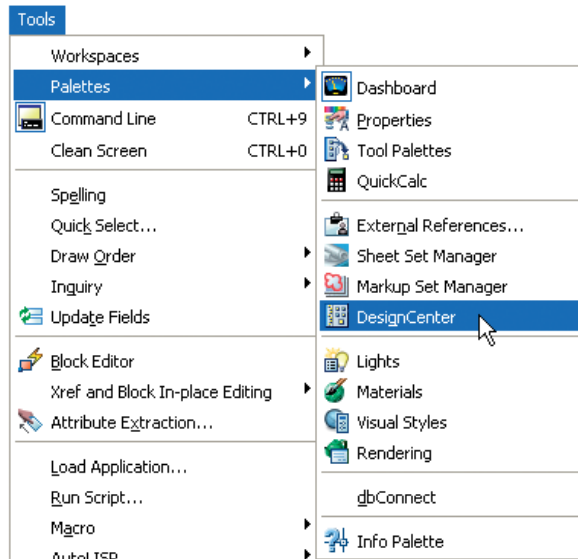

Fig. 9.9 Selecting **DesignCenter** from the **Palettes** sub-menu of the **Tools** drop-down menu
2. Left-click **DesignCenter** in the **Palettes** sub-menu of the **Tools** drop-down menu (Fig. 9.9). The **DesignCenter** palette appears on screen (Fig. 9.10).